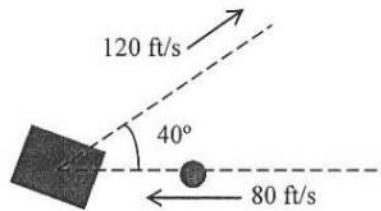

Figure 5
11) A 4-oz cricket ball is bowled with a velocity of 80 ft/s toward a batsman. After the ball is hit by the bat B, it has a velocity of 120 ft/s in the direction shown in Figure 5. If the ball and the bats is in contact for 0.015 s. determine the average impulsive force exerted on the ball during the impact.